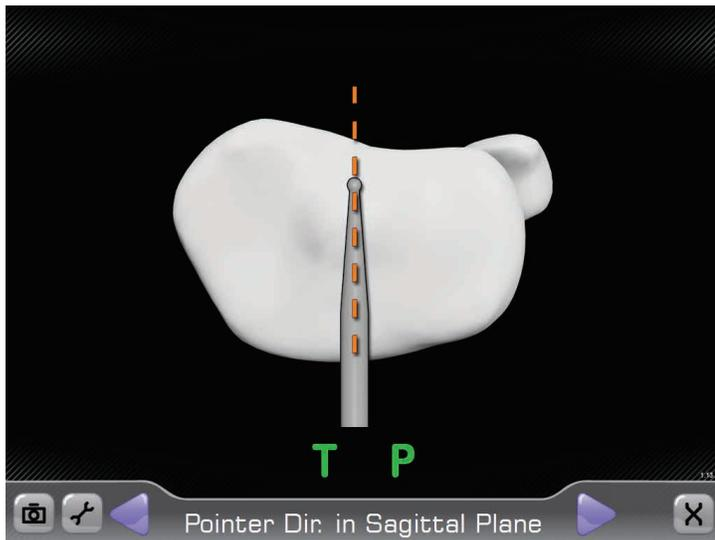

Figure 36
The Pointer Dir. in Sagittal Plane screen is displayed (Figure 36). Position the tip of the Probe Tracker (P) at the posterior center (PCL insertion) and the shaft of the Probe Tracker (P) on the proximal tibia along a line connecting the center of the tibia and the medial-third of the tibia tubercle. Press the Forward button to register this orientation. The system will automatically advance to the next screen.